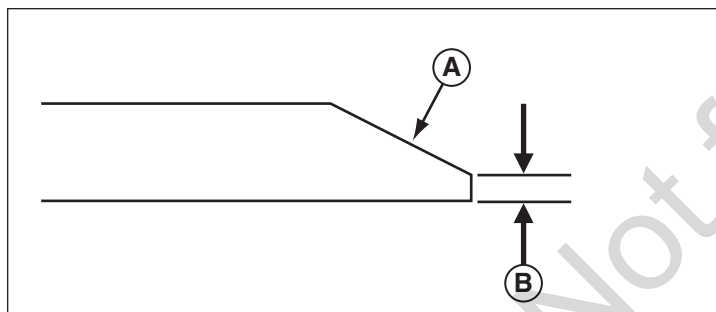

Figure 15. Sharpening the Mower Blade
3. Keep the original bevel (**A**, **Figure 15**) when grinding. **DO NOT** change the mower blade bevel.